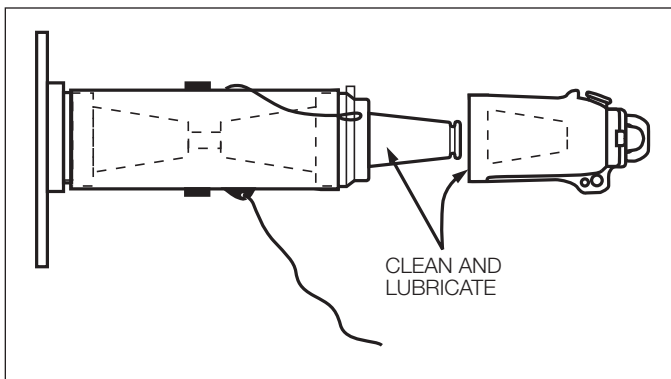

Figure 4.
- Clean and lubricate the 200 A interface of LRTP and mating apparatus (i.e. protective cap, grounding elbow, M.O.V.E. arrester) with lubricant supplied. (Refer to Figure 4.)